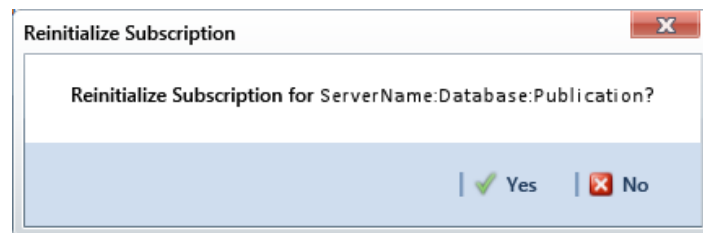

Figure 16-14. Reinitialize Subscription
- 4 Click  **Yes** when the message *Reinitialize Subscription* displays (Figure 16-14).